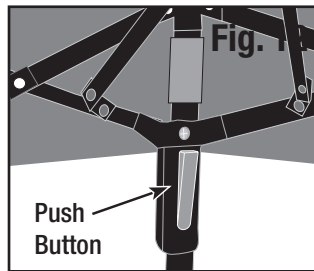

Fig. 12
- Press the push buttons found at upper corners of the frame. (Fig. 12) Collapse shelter frame and store in carry case.